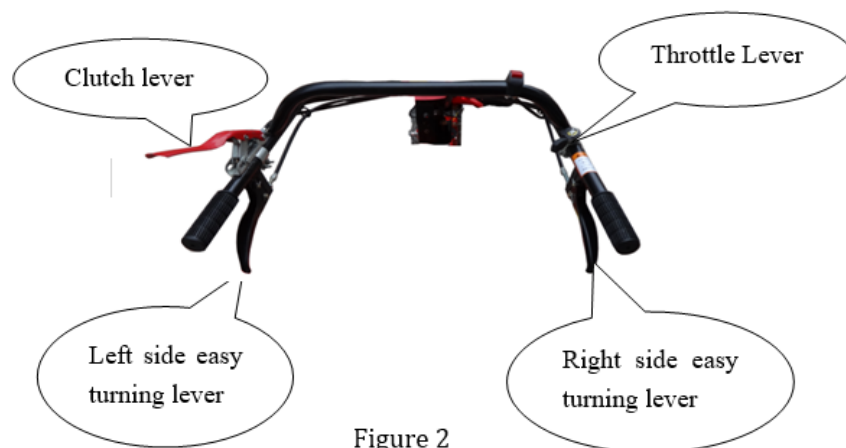
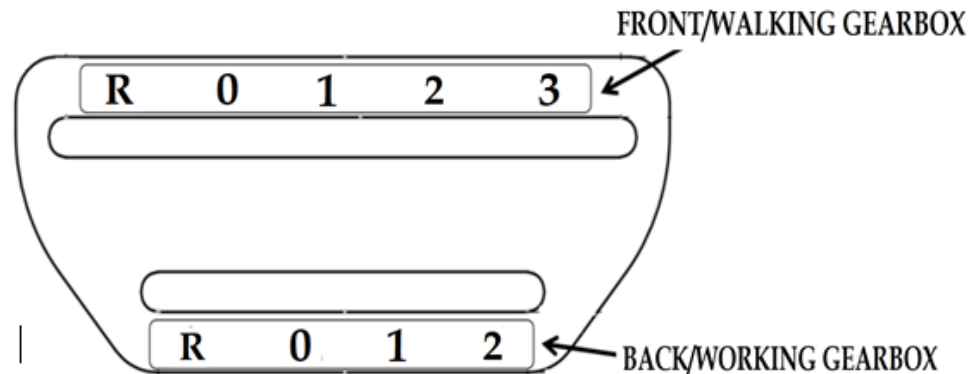

Figure 2
Figure 4
- ① Loosen the lock nut on the screw.
- ② Turn the screw clockwise until the exposed screw hole is shortest.
- ③ Hang the cable hook into the clutch arm hole.
- ④ Push the screw through the cable holder (see Figure 2) and tighten it with the nut. Properly press down the clutch arm and connect the spring on the cable with the clutch arm.
- ⑤ Pull out the screw and repeatedly grip and release the clutch handle until the spring force in the clutch can reset the handle (the grip force is appropriate, generally not more than 25N), and then tighten the lock nut.
2. Adjustment of throttle switch and cable (see Figure 2)
- ① Set the throttle switch in the minimum position.
- ② Thread the wire rope in the throttle cable through the threading post and fixing seat above the engine throttle adjustment plate.
- ③ Tighten the steel rope and tighten the fastening bolts on the fixing base.
- ④ Adjust the throttle switch repeatedly until the throttle handle on the throttle adjustment plate can reach the maximum or minimum position.
- 1 This machine has two gear levers (one is walking gearbox shift lever, the other is working gearbox shift lever), select the gear according to the need (see Figure 4).
1、Gears as shown (Figure 4) :